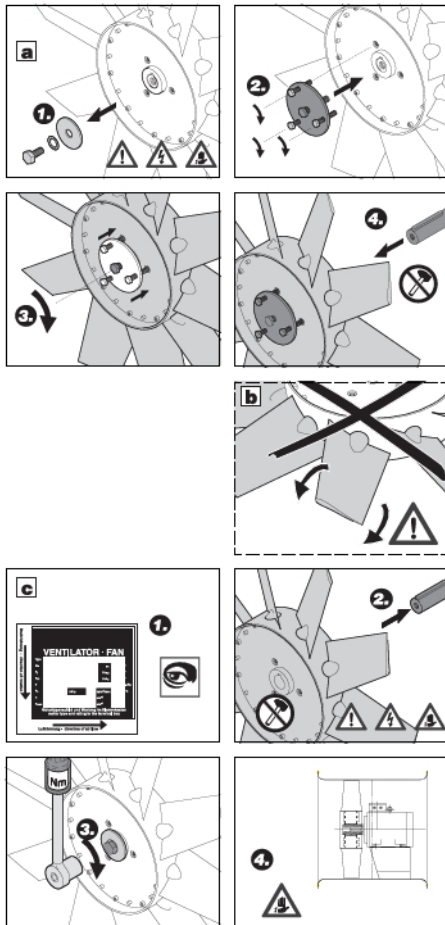

Fig. 6: Maintenance of impeller and housing
a) Dismantle the impeller (refer to fig. 6)
① Unscrew the mounting screw of the impeller.
② Screw the detaching device with three hex head screws onto the impeller hub.
③ Squeeze-off the impeller with hex head screws from the shaft.
④ Subtract the impeller.
b) Blade angle (refer to fig. 6)
c) Mounting the impeller (refer to fig. 6)
Replacing the motor (see Fig.6)